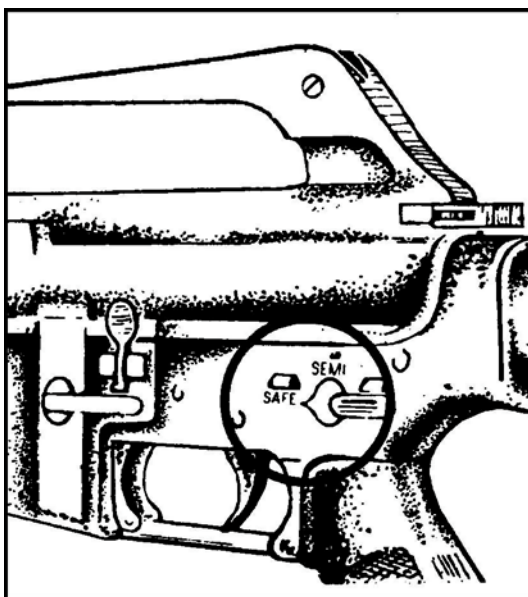

Figure 1. Selector lever on safe.
- c. Turn the selector to SAFE (Figure 1).